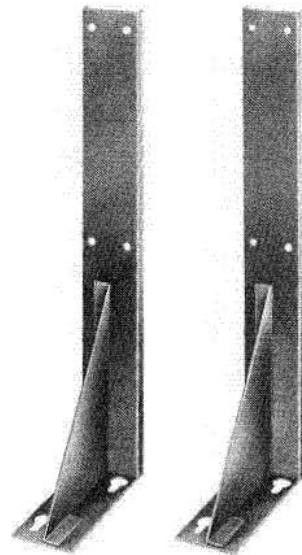

Fig. 30—Metal Stand per ED-95023-70
6.03 The metal stand per ED-95023-70† (Fig. 30) has two leg assemblies used to mount one 16A apparatus mounting, or one J86731A, List 4 power plant, and may be used with the 16C apparatus mounting when redrilled locally. It is furnished with four RHM screws, four hex nuts, and four washers.